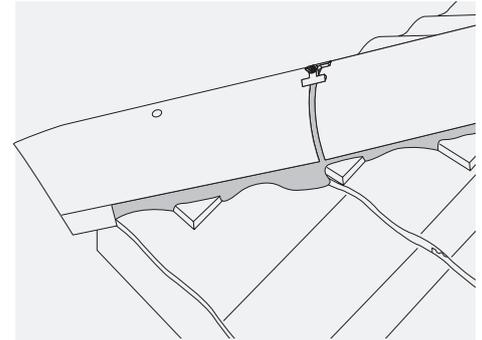

Fig. 30 – Hip end tile with mortar bedded security fixing kit
- 3 Mortar bedded hip tiles must also be mechanically fixed using Marley mortar bedded security hip fixing kits (Fig. 30).